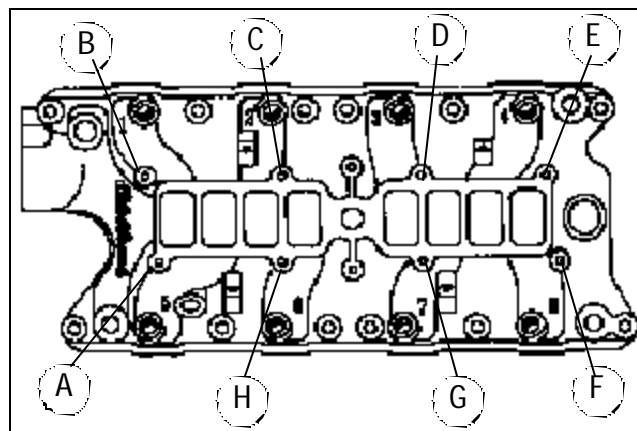

Figure 1 - Intake Manifold top-to-bottom faster locations
4. Install upper-to-lower manifold gasket (dry), fiber laminate spacer, another upper-to-lower manifold gasket, and upper manifold using hardware supplied (see *Figure 1 and Fastener Location Chart*). Upper manifold must be positioned so that the throttle body is on the passenger's side of the vehicle, not the driver's side.